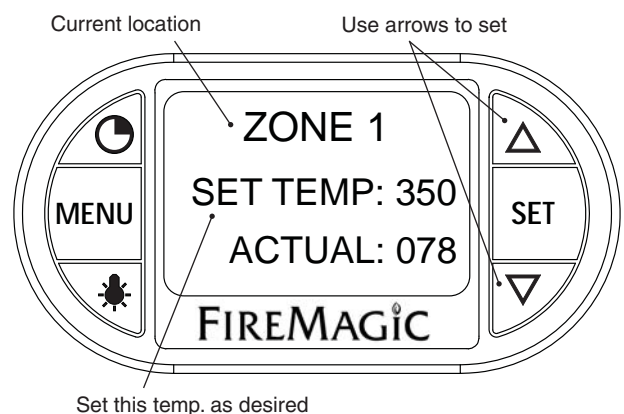

Fig. 21-4 Location temp. screen (zone 1 shown)
2. The selected location's temperature screen will be displayed. Use the arrows to set the desired temp. The actual temp. will also be shown. (See Fig. 21-4.)